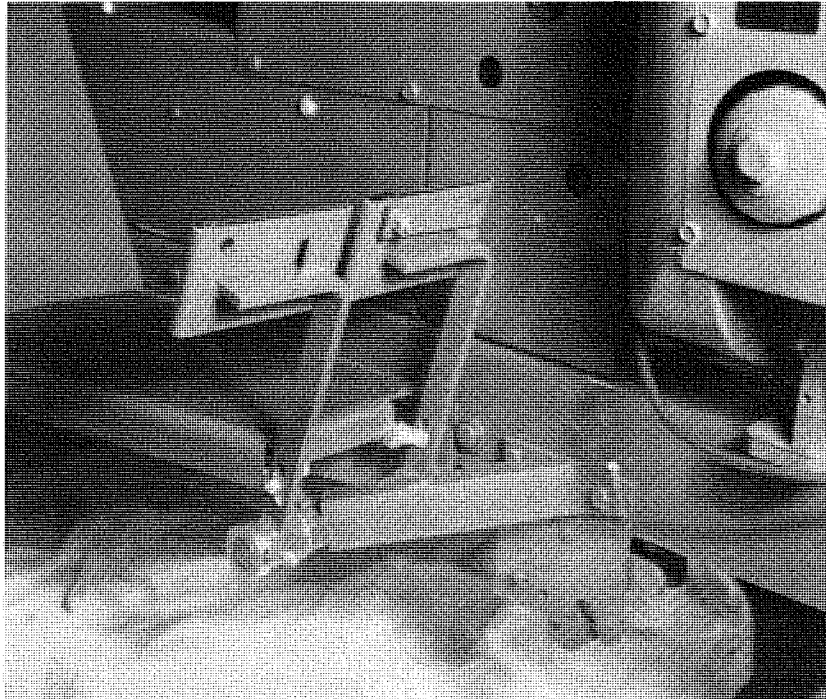

FIGURE 1
Install the brace assembly (16), fastening it to the frame with a $\frac{3}{8}$ x $1\frac{1}{4}$ bolt and nut as shown in Fig. 1. Secure the other end to the midlift pivot mounting block with the bolt removed previously.
Add the washers (41), the RH foot pedal (14) and the collar (17) to the shaft and tighten (see Fig. 1). Install grease fittings in the pedals and lubricate with a general purpose grease.